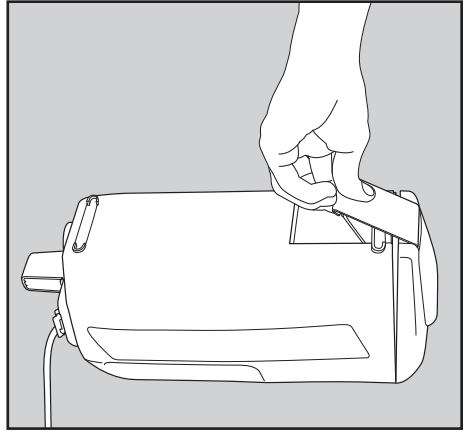

Fig. 18
- Turn the vacuum over. Lift up the cover retaining clip to remove the cover (Fig. 18).